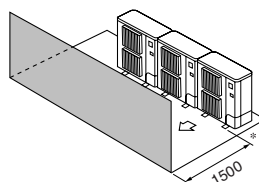

Fig. 2-10
③ Obstacles at front only (Fig. 2-10)